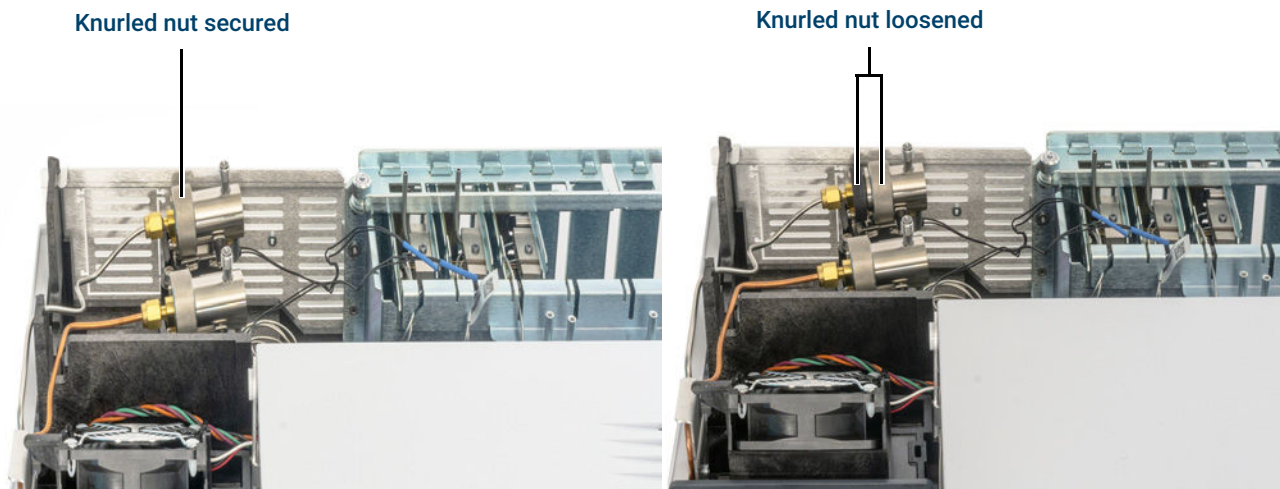

Figure 40. Loosen knurled nut
4. Completely loosen the knurled nut that secures the split vent trap in place as shown in Figure 40.